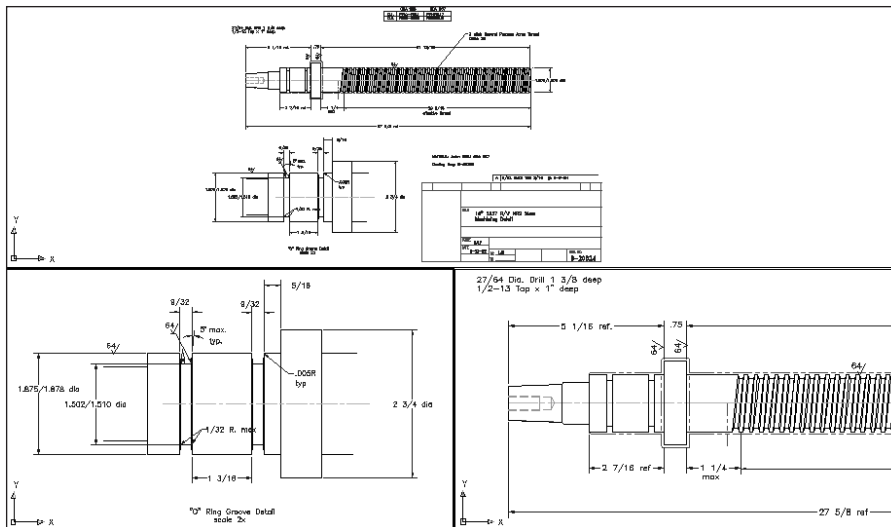

Figure 8-19: The three tiled viewports now display three different views.
7. Click the top viewport. Choose `Zoom Extents` from the `Zoom` flyout of the `Standard` toolbar. Figure 8-19 shows the results.